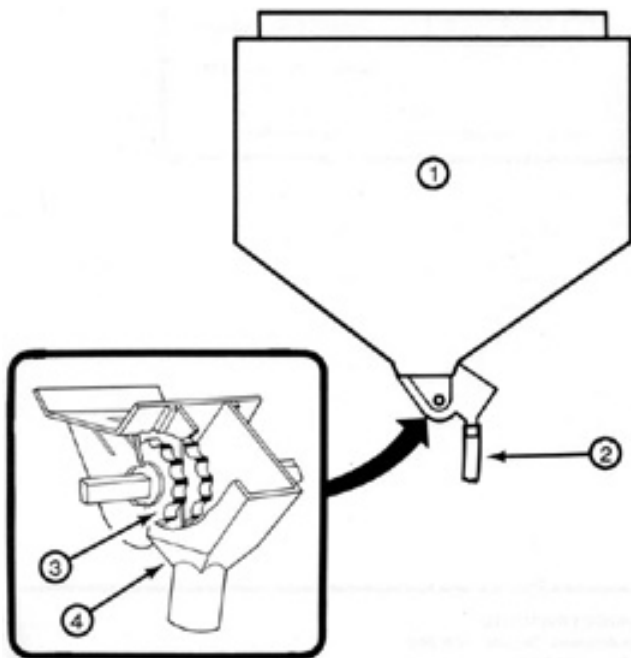

FIGURE 2. Fertilizer Metering System: (1) Box, (2) Delivery Hose, (3) Metering Wheel, (4) Metering Cup.
**Fertilizer Metering:** The accuracy of the Accu Lil Bander metering system (FIGURE 2) was very good when applying fertilizer.